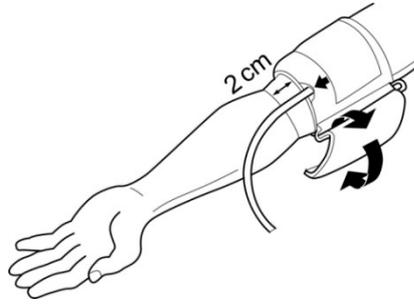

Fig. 8: Correct position of blood pressure cuff
- 5) Position the blood pressure cuff correctly (see Fig. 8):